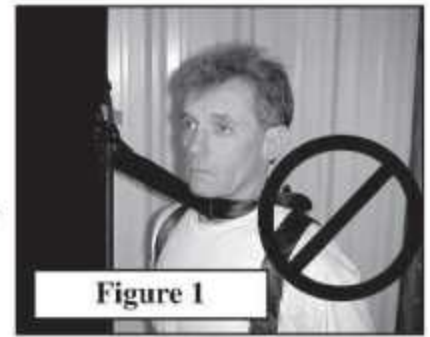

Figure 1
3. Never allow the tether strap to get under or around your neck as shown in Figure 1.